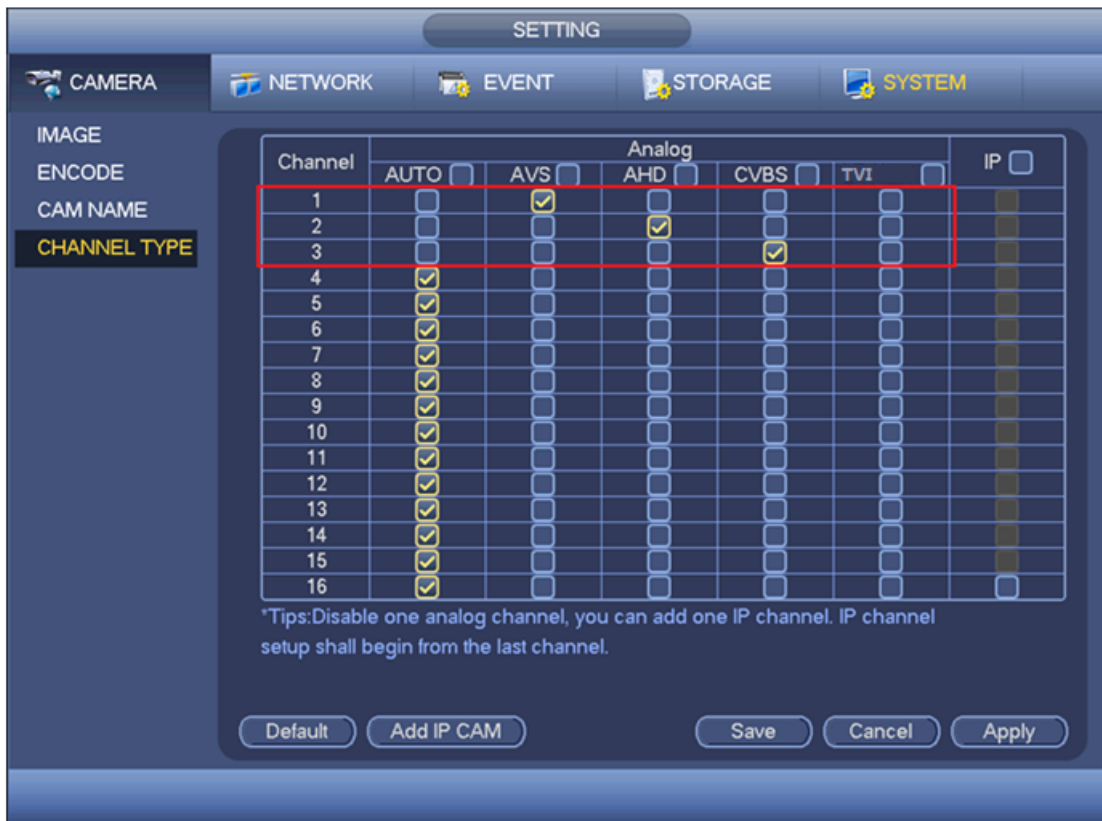

Figure 4-198
- If the auto recognition error occurred, penta-brid series product supports manual setup too. The manual setup featuring high recognition speed and usually there is no error. For example, in Figure 4-198, you can set channel 1 to connect to AVS camera, channel 2 to connect to AHD camera, channel 3 to connect to CVBS camera.